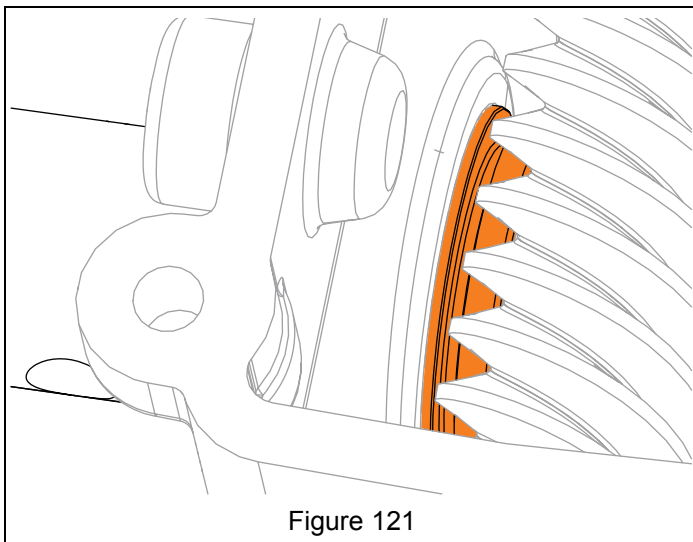

Figure 121
14. With a driver, such as a 1 1/4" deep-well socket, drive bushing into gearcase until groove is just beyond interior gearcase wall. See Figure 121.